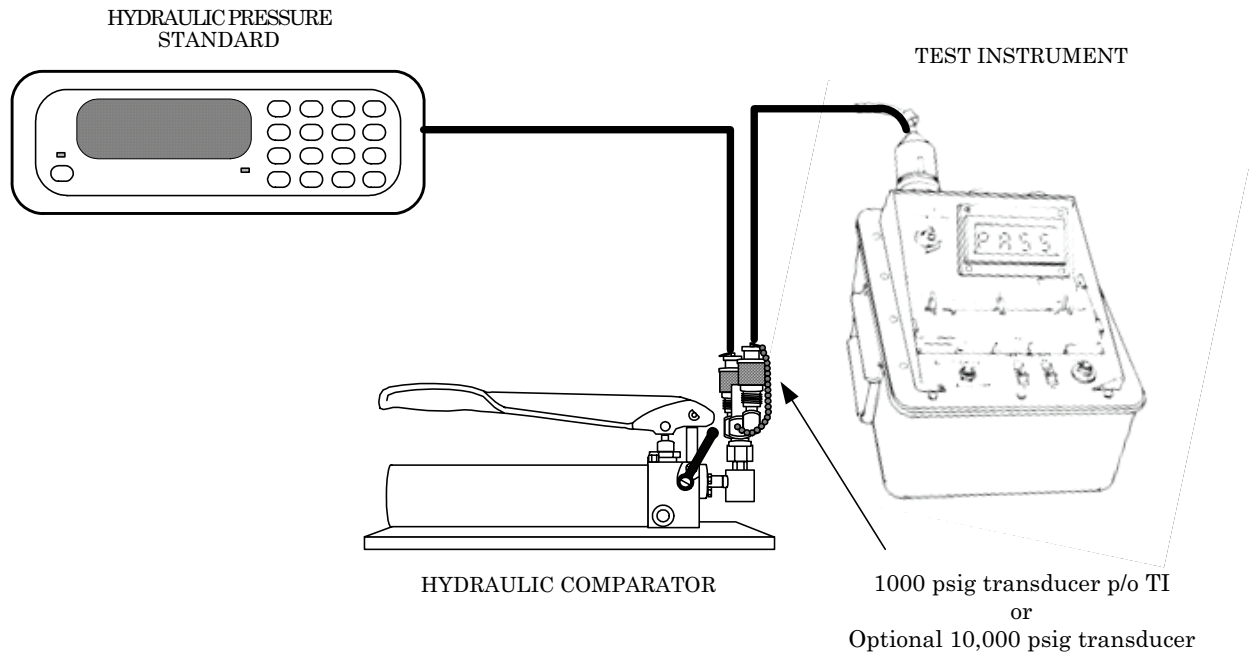

Figure 2. Pressure - equipment setup (1000/10,000 psi).
- (1) Connect equipment as shown in figure 2.
- (17) Connect equipment as shown in figure 2.
- (18) Set **TEST SELECT** switches to **51**.
- (19) Operate hydraulic pressure standard to apply 10,000 psi and return to **0** three times.
- (20) With pressure at **0**, press and hold **TEST** pushbutton until **CAL** appears on TI display. Release **TEST** pushbutton.
- (21) Wait for offset value to appear on display. Offset value will be between **-450** and **+450**.
(22) Press and release **TEST** pushbutton.
(23) Operate hydraulic pressure standard to apply 3000 psi. TI will indicate between 2775 and 3225.
(24) Operate hydraulic pressure standard to apply 9500 psi. TI will indicate between 9112 and 9888.